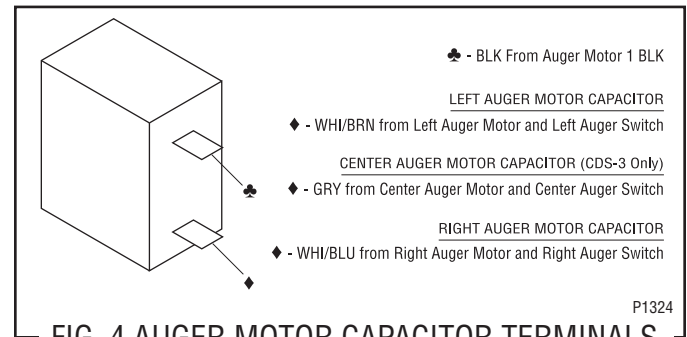

FIG. 4 AUGER MOTOR CAPACITOR TERMINALS
7. Refer to Fig. 4 when reconnecting the wires.